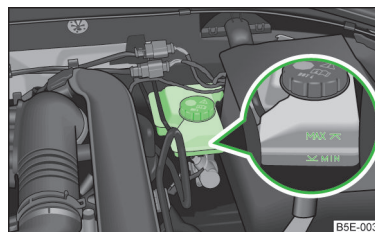

Fig. 186
- If the fluid level has dropped below the MIN marking » Fig. 186 on page 223,
- Check the level of brake fluid in the reservoir » Fig. 186.